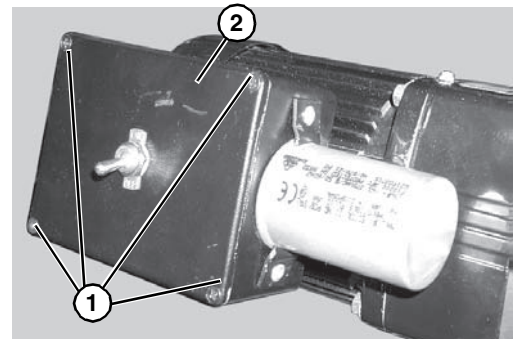

Figure 14
1. Loosen terminal box screws (**Figure 14, item 1**) and remove cover (**Figure 14, item 2**).